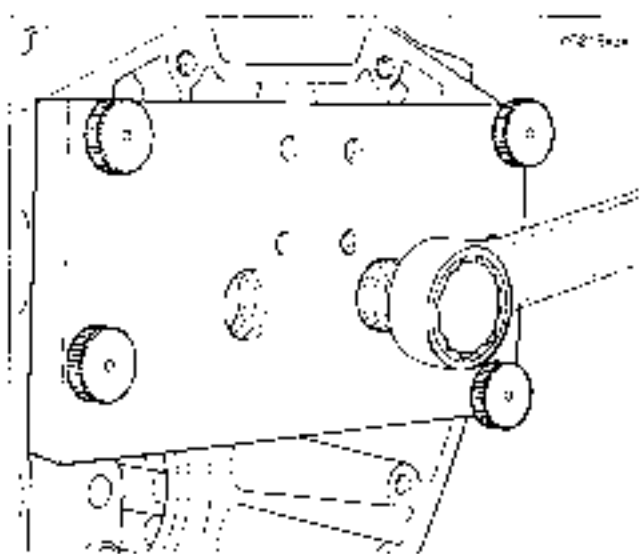

Figure 3-147. Turn Installer Shaft Clockwise to Install Bearing
8. See Figure 3-147. Using 15/16 in. open end wrench turn hex at end of installer shaft in a clockwise direction until resistance is felt.